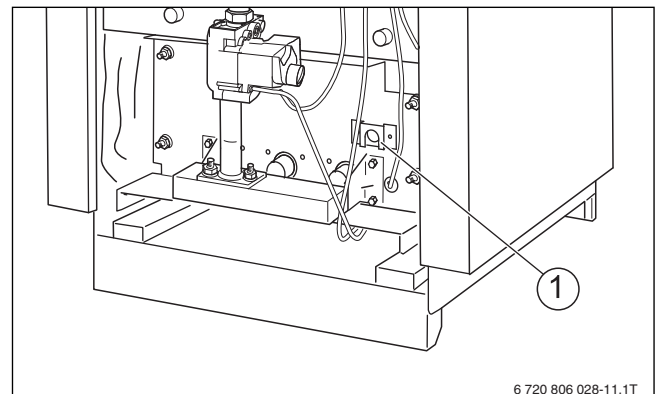

Fig. 21 Inspection hole in the burner cover
5. Look at the ignition module through the inspection hole (→ Fig. 21 [1]) in the burner cover.
13. Observe ignition flame through the inspection hole in the burner cover (→ Fig. 21 [1], page 19).
18. Observe the main burner flame through the inspection hole in the burner cover (→ Fig. 21 [1], page 19). The flame must have a steady and fixed contour and generally has a bluish color. If the main burner flame has the proper appearance, continue with step 21.